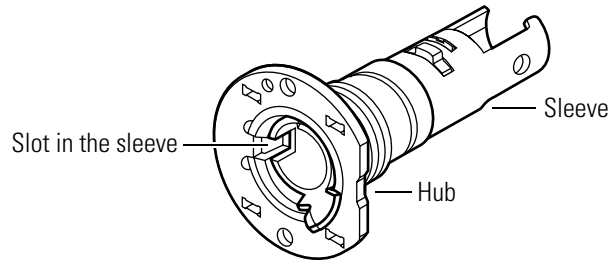

**Figure 3.23** Removing and replacing the sleeve assembly
2. Position the sleeve as shown in Figure 3.23. Push the sleeve through the hub as far as possible.
4. Press the screwdriver blade in the direction of the arrow in Figure 3.23. Push the sleeve through the hub, keeping the knob keeper pushed in until it clears the hub.
3. Press the screwdriver blade in the direction of the arrow in Figure 3.23. Push the sleeve the rest of the way through the hub.